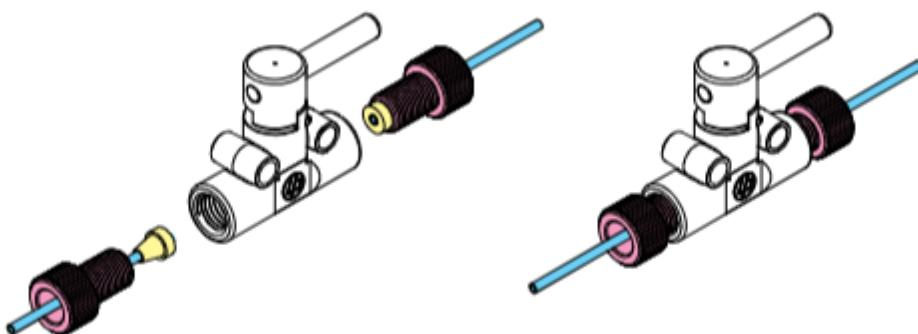

Figure 12.1.1: Figure: Exploded view of the valves.
1. Cut 2 pieces of tubing to the desired length to connect the pressure box with the Automatic fluidics and the latter with the Flow Cell (always use an appropriate tubing cutter to ensure a good connection). Unscrew the fittings and guide the tubing through, connecting the corresponding ferrule from the other side (see Figure 12.1.1 and Figure 12.1.2).